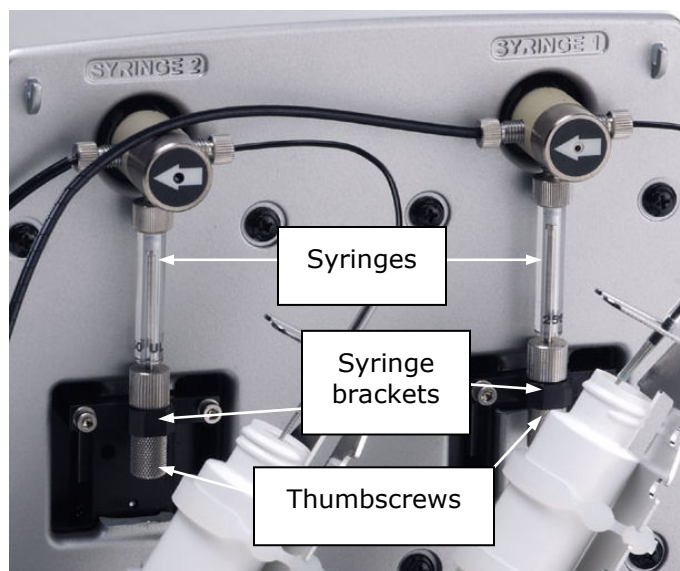

Figure 5: The dispense module; close-up view of the syringes
4. Identify the two syringe valves on the dispense module (see *Figure 5*). Each is labeled with a left-pointing arrow.
13. Install both syringes, referring to **Figure 5**.